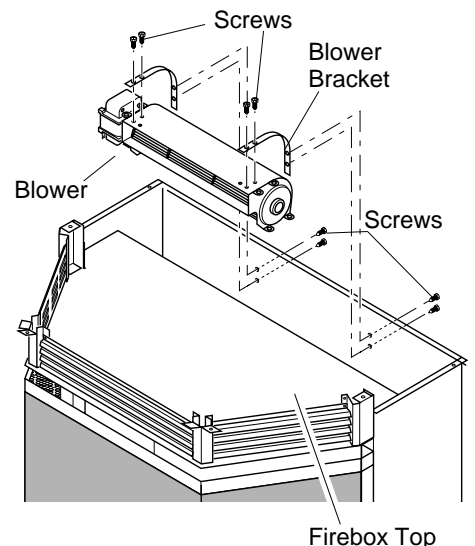

Figure 14 - Removing Blower Brackets from Stove and Attaching to Blower
7. Remove the two blower mounting brackets from the rear panel by removing two screws each (see Figure 14).
8. Attach the two mounting brackets to blower housing using four screws provided in blower kit (2 for each bracket) (see Figure 14). Tighten screws securely. Place blower assembly temporarily on top of firebox.
- Using the four screws previously removed, mount blower assembly to stove by reattaching blower brackets to rear panel (see Figure 14, page 10). Tighten screws securely.
- Remove the two blower mounting brackets from the rear panel by removing two screws each (see Figure 14, page 10).
- Attach the two mounting brackets to blower housing using four screws provided in blower kit (2 for each bracket) (see Figure 14, page 10). Tighten screws securely. Place blower assembly temporarily on top of firebox.
21. Using the four screws previously removed, mount blower assembly to stove by reattaching blower brackets to rear panel (see Figure 14, page 10). Tighten screws securely.